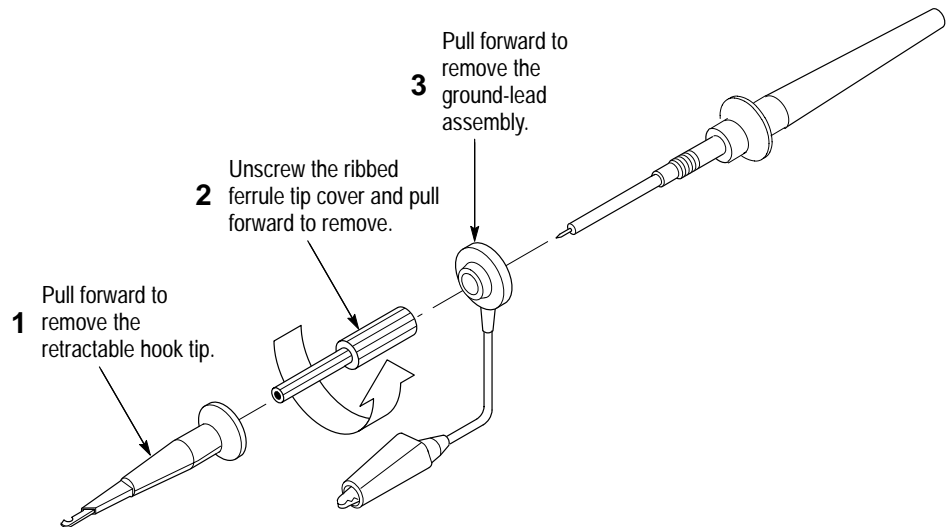

Figure 5-4: Exposing the Inner Probe Tip
- a. *Expose the Inner Probe Tip:* Follow the instructions in Figure 5-4.
- b. If substep 2b was passed, the probe adjustment is finished. Reverse the instructions in Figure 5-4, page 5-13, to reinstall the retractable hook probe tip.
3. *Disconnect the hookup:* Unplug the probe from the BNC to probe tip adapter. Reverse the instructions in Figure 5-4, page 5-13, to reinstall the retractable probe tip.